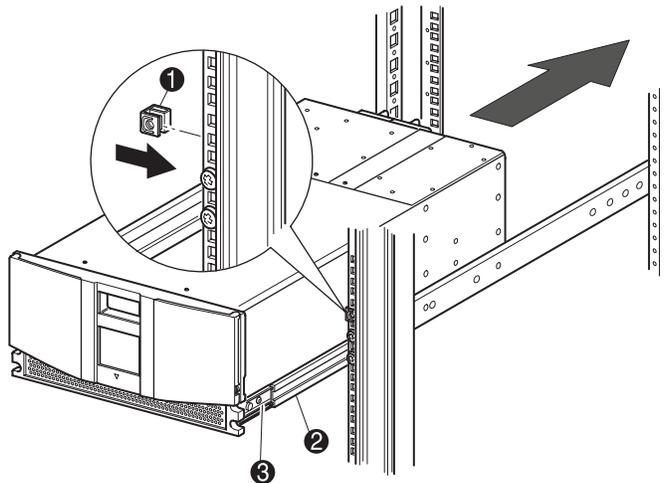

Figure 2-4: Installing the library (Model MSL5026 shown)
3. Install the two slide-on cage nuts ❶, aligned two rack units above the rail bracket screws, on each of the front storage cabinet vertical rails (Figure 2-4).
5. Carefully insert the library's inner slide rails ③ into the extended intermediate slide rails ② (see Figure 2-4).